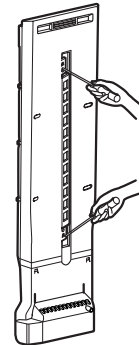

Figure 3
▶ Right Door -FIG. 3
1. Open the door, remove 1 screw on the top of the hinge cover. Loosen top hinge cover screw (1). Lift up cover (2).
3. Rotate hinge lever (3) clockwise. Lift top hinge (4) free of hinge lever latch (5).
1. Remove the upper and lower caps with a flat screwdriver and remove 2 screws. (Figure 3)